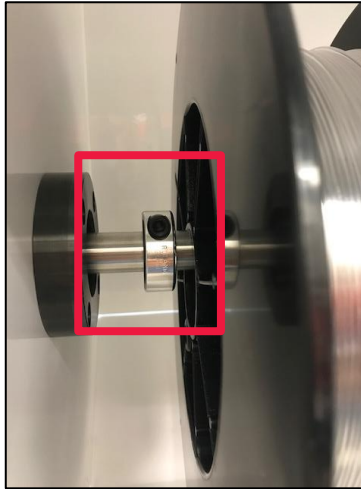

Figure 33: Shaft Collars
5. If necessary, adjust the shaft collars on the filament roll support so the filament roll is centered relative to the filament guide (Figure 33).